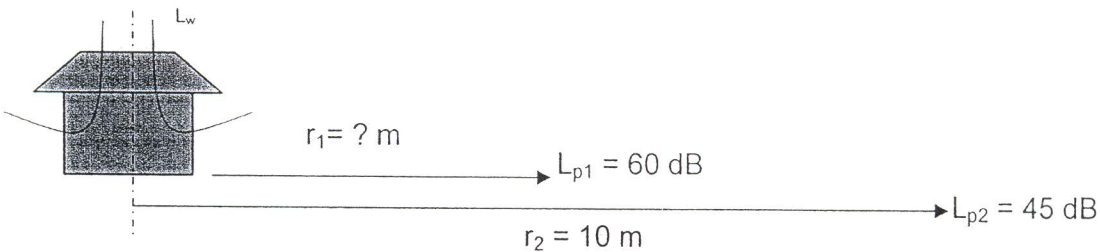

Figure Q3: Sound pressure distance
- c) Referring to figure Q3, determine the value of radius (r_1) when